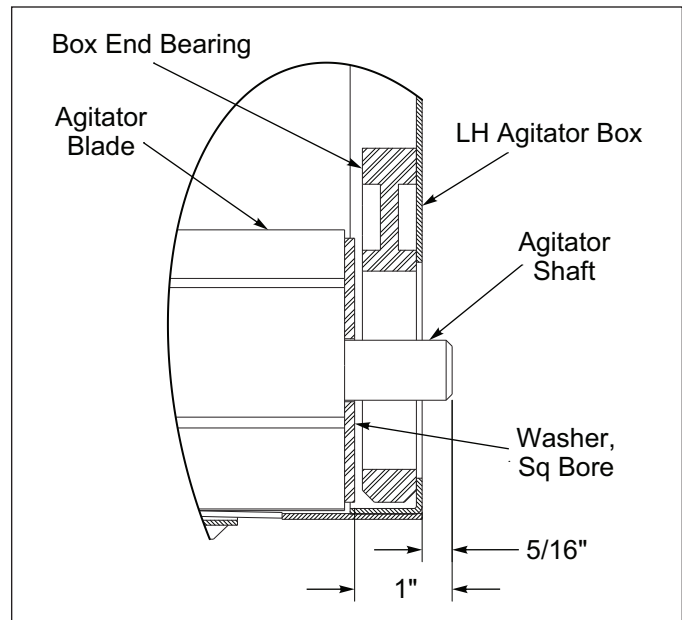

Figure 2-46: LH Agitator Box Center Detail
13. Verify Agitator Shaft to Transmission Drive Coupler engagement. LH Agitator Seed Box Assembly end by the Center Extended Support Bracket, measure the distance from the end of the Agitator Shaft to the Square Bore Washer. It should be approximately 1". **See Figure 2-46.**